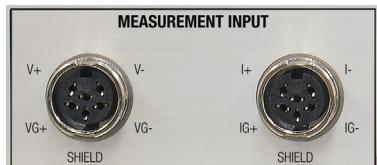

FIGURE 3-3 *Measurement input connectors*
Two 6-pin (240°) circular DIN 45322 receptacles are used for the resistive measurement input. One connector provides voltage source excitation connections (V) and the other provides current measurement connections (I). Both mate with 6-pin circular DIN plugs included with the instrument (Lake Shore P/N G-106-233). Examples of lead arrangements are shown in FIGURE 3-3. Refer to section 4.4 to configure the measurement input.